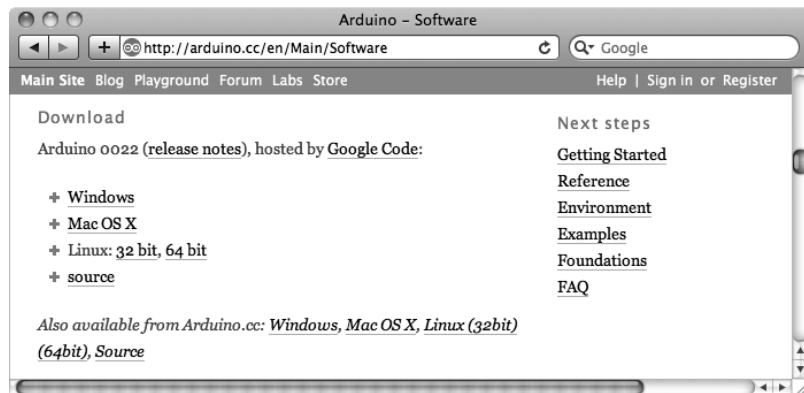

Figure 1-7: The IDE download page in Safari
1. Using a web browser such as Safari, visit the software download page located at <http://arduino.cc/en/Main/Software/>, as shown in Figure 1-7.